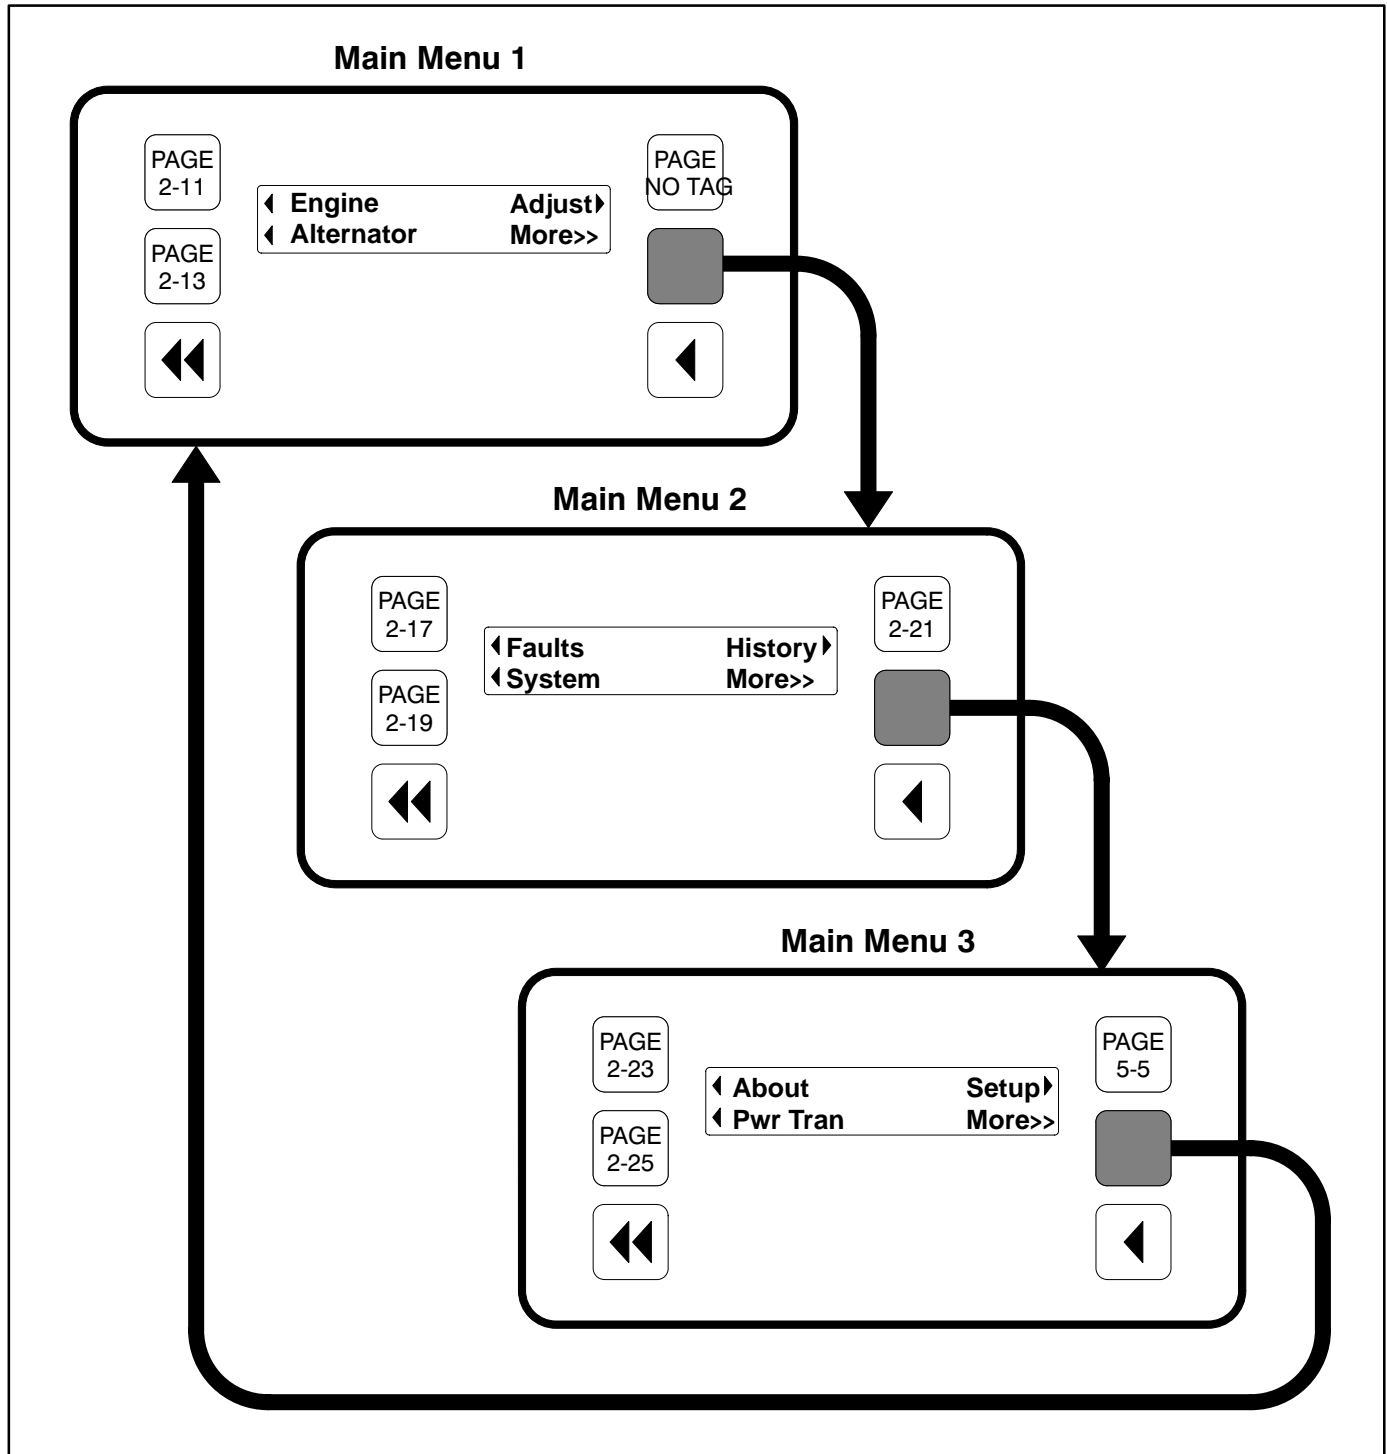
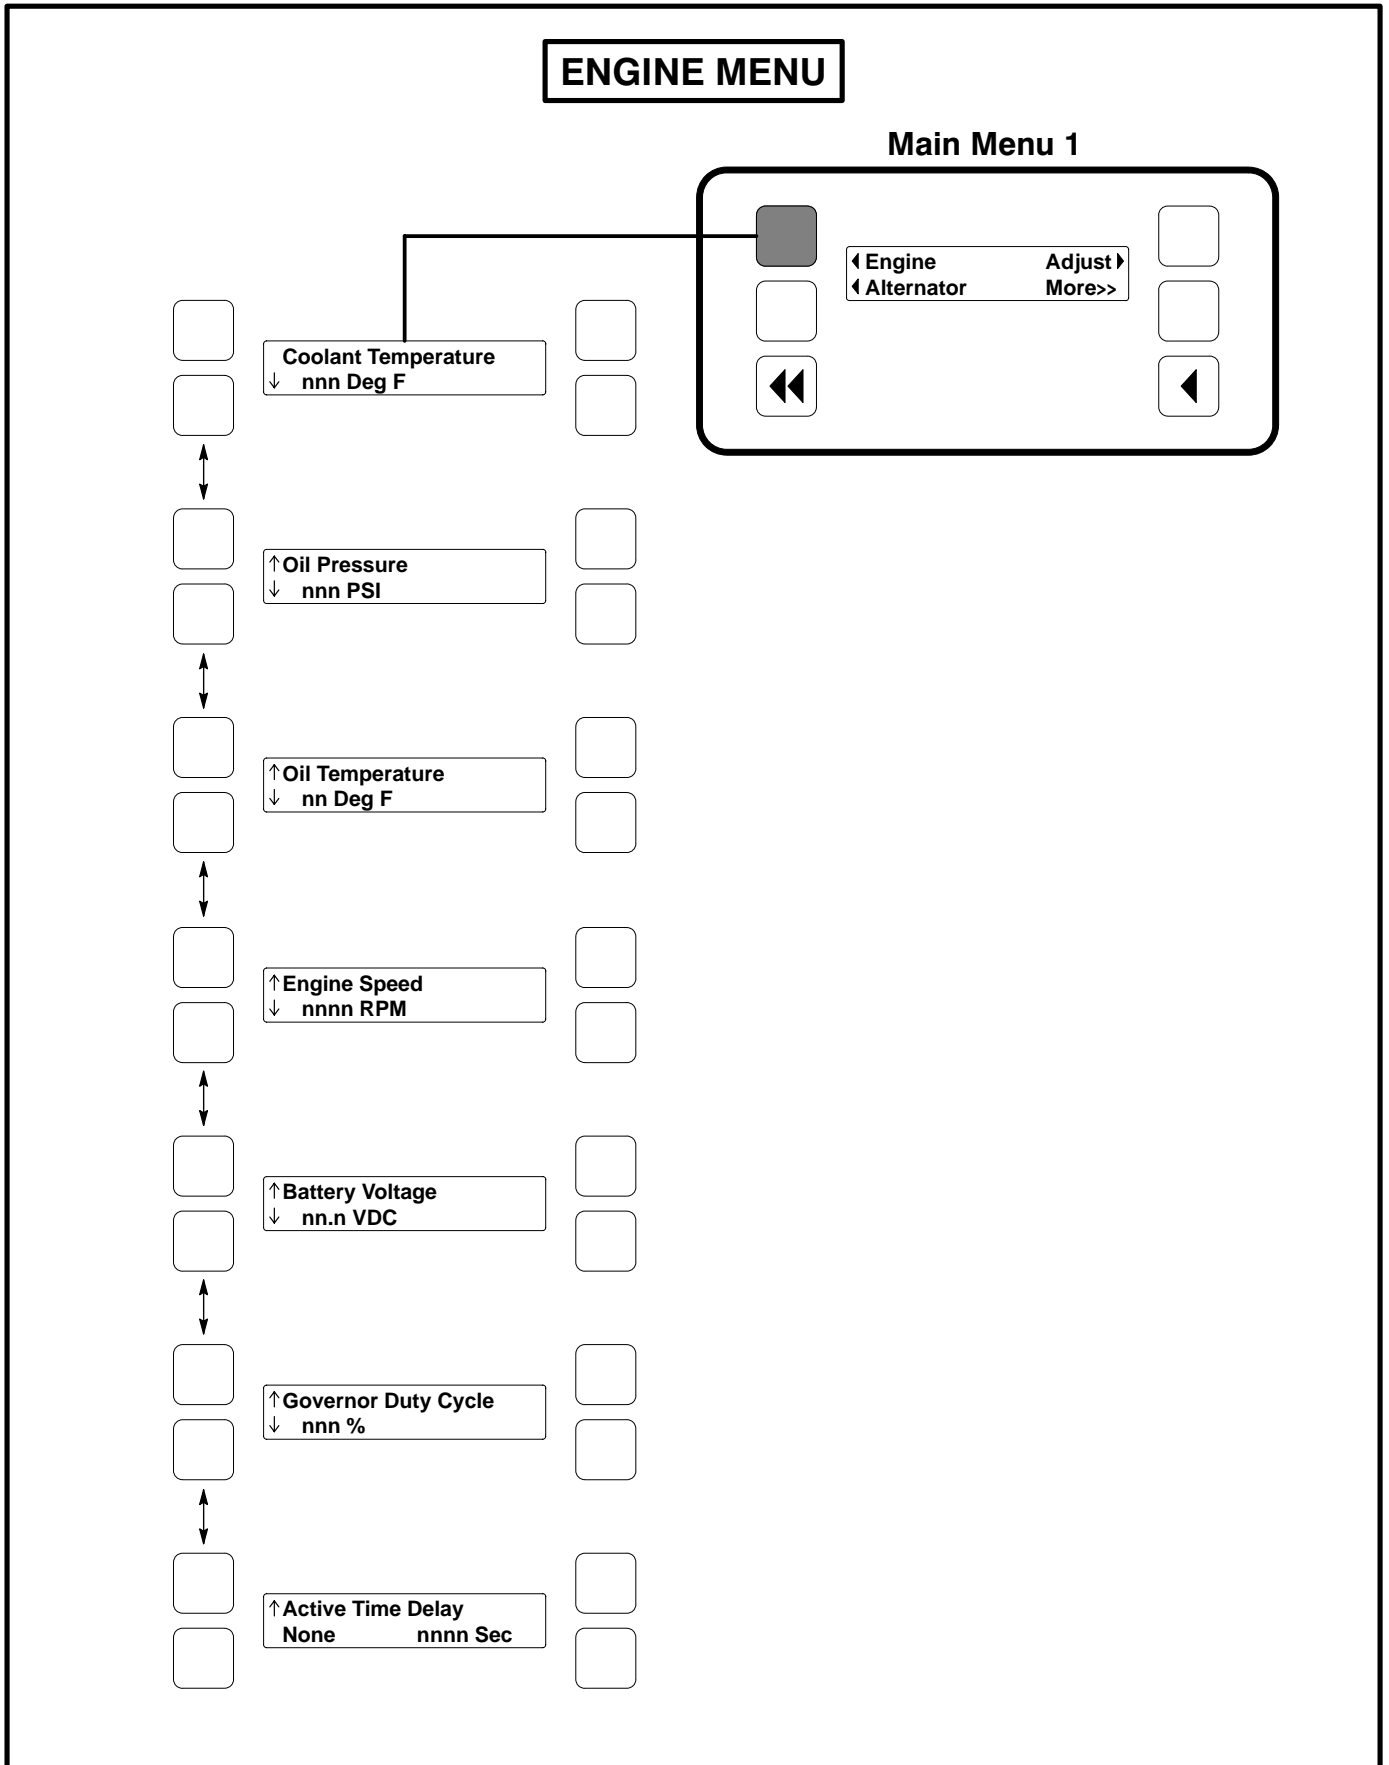

FIGURE 2-3. MAIN MENUS
FIGURE 2-5. ENGINE MENU
- In the digital display for main menus (Figure 2-3), the ◀ and ▶ symbols indicate that pressing the adjacent button causes the operating program to go to the selected submenu (e.g., Engine Menu in Figure 2-5).
- In the digital display, the More>> symbol indicates that pressing the adjacent button causes the operating program to go to the next main menu, as shown in Figure 2-3.
**Home Button:** Pressing this button causes the operating system to show Main Menu 1 (Figure 2-3) in the digital display.
Figure 2-3 shows the three major main menus available to the user. Figure 2-3 also includes references to pages in this section where you can find additional information on submenus. When viewing a submenu, you can press the previous main menu button at any time to view its main menu.
Figure 2-5 shows a block representation of the Engine menu. If you press the button next to the word “Engine” in the display, the first Engine submenu is displayed.